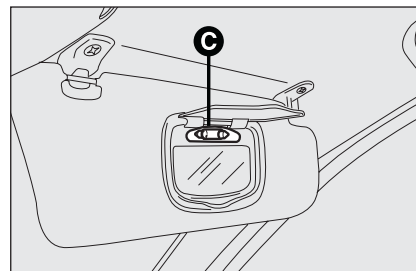

fig. 46
- replace the bulb **C**-fig. 46 releasing it from the side contacts making sure that the new bulb is correctly clamped between the contacts.